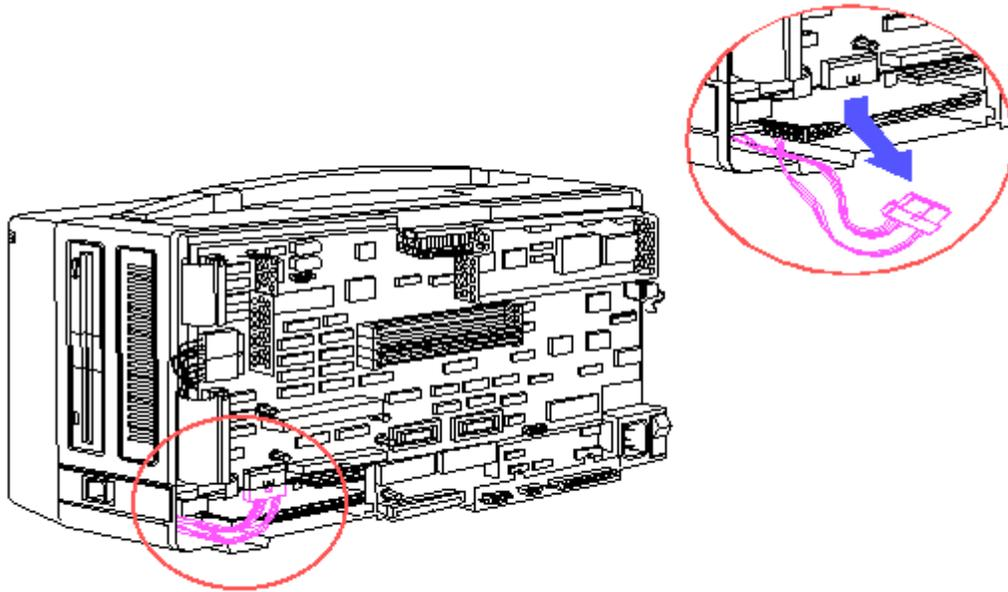

Figure 8-22. Disconnecting the LED/Speaker and Keyboard Cables
4. Press the top tab and disconnect the LED/speaker and keyboard cables from the system board (Figure 8-22).